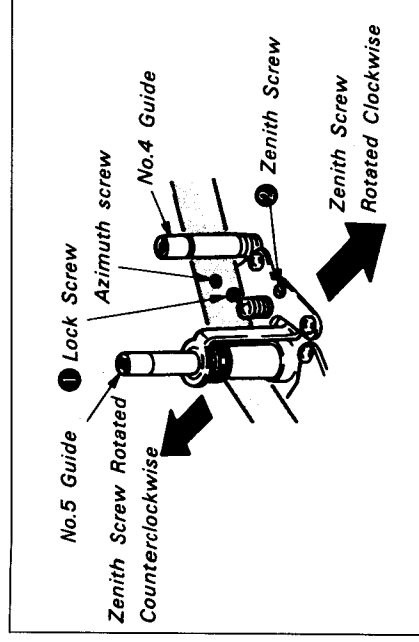

Fig. 7-73.
- 1) Playback the alignment tape (WR5-1C) for tracking. Rotate No.4 guide counterclockwise and No.5 guide clockwise in order to make the tape running on the exit side free. (See Fig. 7-73.)
- i) Rotate the lock screw ❶ counterclockwise to loosen.
- ii) Slowly rotate the zenith screw ❷ 45° at a time and wait until the RF waveform varies.
- iii) Rotate the lock screw ❶ clockwise to tighten. (See Fig. 7-73.)